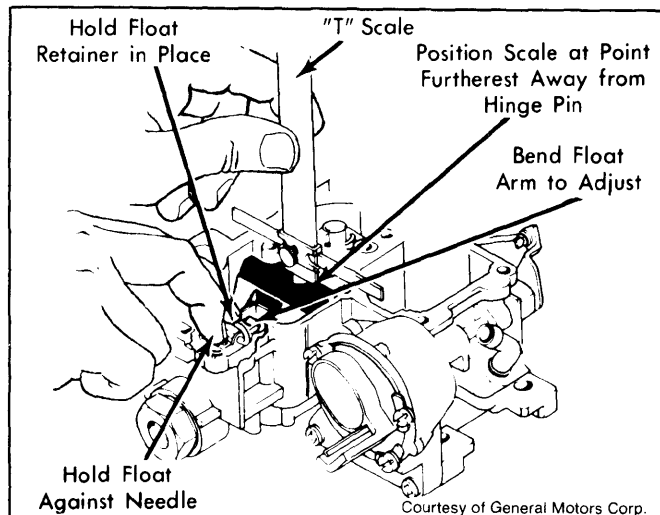

Fig. 2: Dry Float Level Adjustment
1) Remove air horn and gasket from float bowl. Hold float retainer firmly down while lightly pushing float down against needle. See Fig. 2.